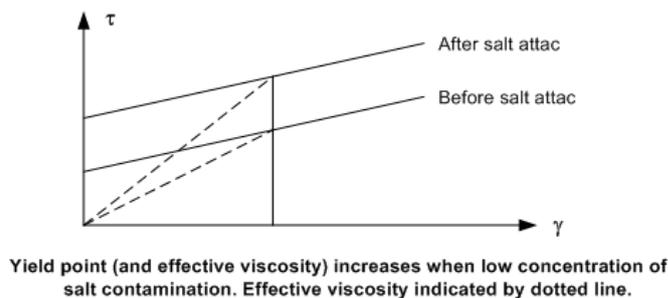

Figure 5-10. Clay behavior.
d) Figure 5-10 shows both how a Ca attacks is changing the dispersed mud, but also how Gyp mud is made. Bentonite is composed mainly of the mineral called Montmorillonite. It is an aluminium silicate in which the silicon-oxygen sandwich is a layer of aluminium hydroxide. Some of the aluminium in the lattice structure is, during creation, replaced with ions of a lower charge (electron valence) such as magnesium (from 3 to 2). The *substitution*, without any other change of structure, creates surface negative charges in the lattice.
Gypsum is added to prevent shale swelling. When lime or gypsum is added to Bentonite-treated mud, sodium Montmorillonite will convert to calcium Montmorillonite, which first produces flocculation and eventually aggregation of the Montmorillonite (see Figure 5-10). Caustic soda is added for pH control to suppress further dissolution of  $\text{Ca}^{++}$ . Lignosulphate is added for deflocculating. CMC may be added for fluid control. Then we get gyp mud.